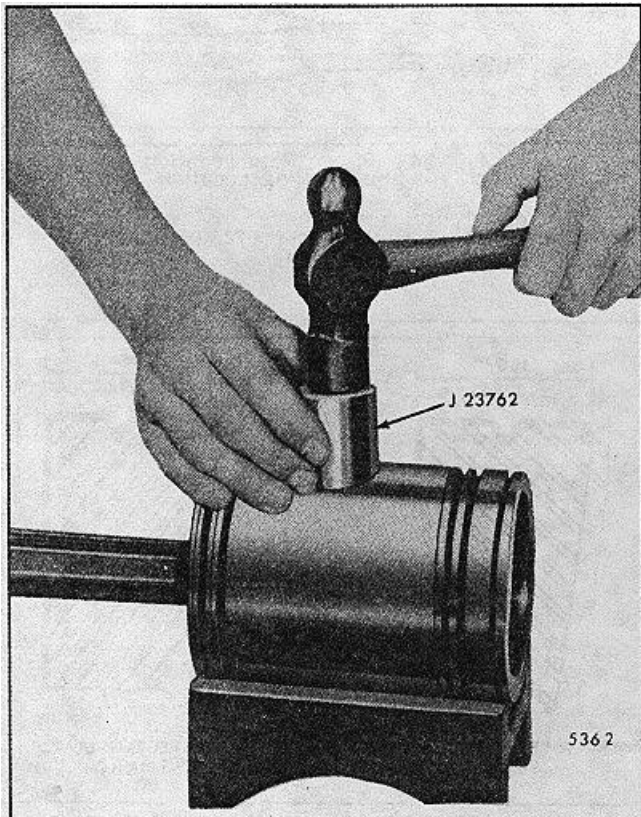

FIG. 21 - Installing Piston Pin Retainer
8. Place a new piston pin retainer in position. Then place the crowned end of installer J 23762 against the retainer and strike the tool just hard enough to deflect the retainer and seat it evenly in the piston (Fig. 21).